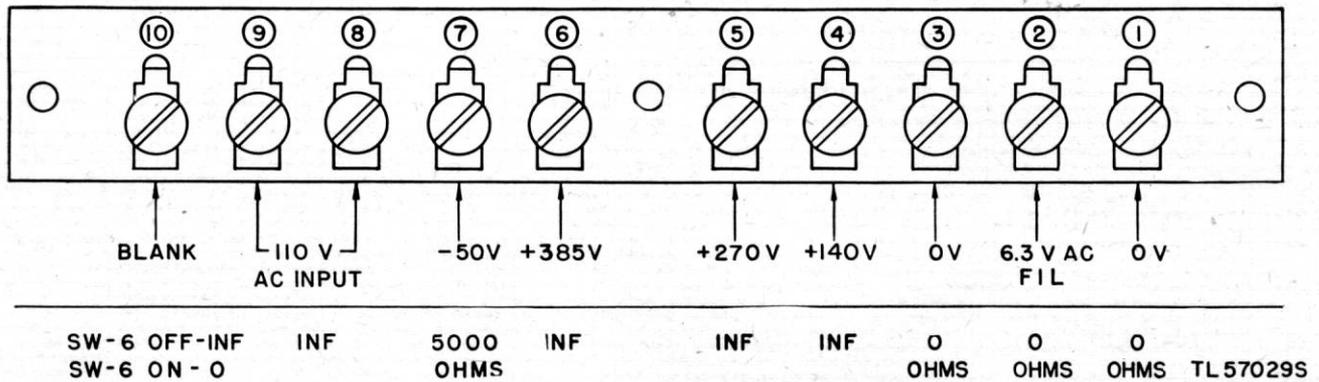

Figure 36. Receiver terminal strip, voltage and resistance measurements.
*c.* If no abnormal indication appears, measure the voltage and resistance between the terminals of terminal strip E4 and the receiver chassis (fig. 36). Correct readings will indicate that the power supply
| 3. Receiver inoperative. S-meter does not deflect as receiver is tuned. Dial lamps light.  | 3. Failure of B plus supply.....Defect exists between antenna terminal and detector stage.  | 3. Remove metal cover from receiver terminal strip E4 and compare voltages measured between each terminal and chassis with values shown (fig. 36). If no B plus voltage is present, check power supply unit tubes. If voltage is low, check filter capacitors C1 and C2. See symptoms 4 and 5.   |